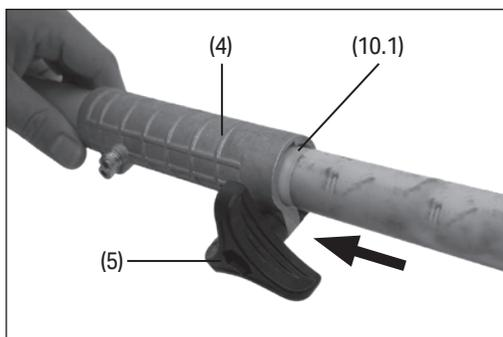

Fig.4
- Align the attachment guard (11) with the shaft (10).
6.3 Connecting and Removing the Attachment Shaft (Fig.4)
- Before starting the engine, the required attachment must be correctly fitted to the shaft connector (4).